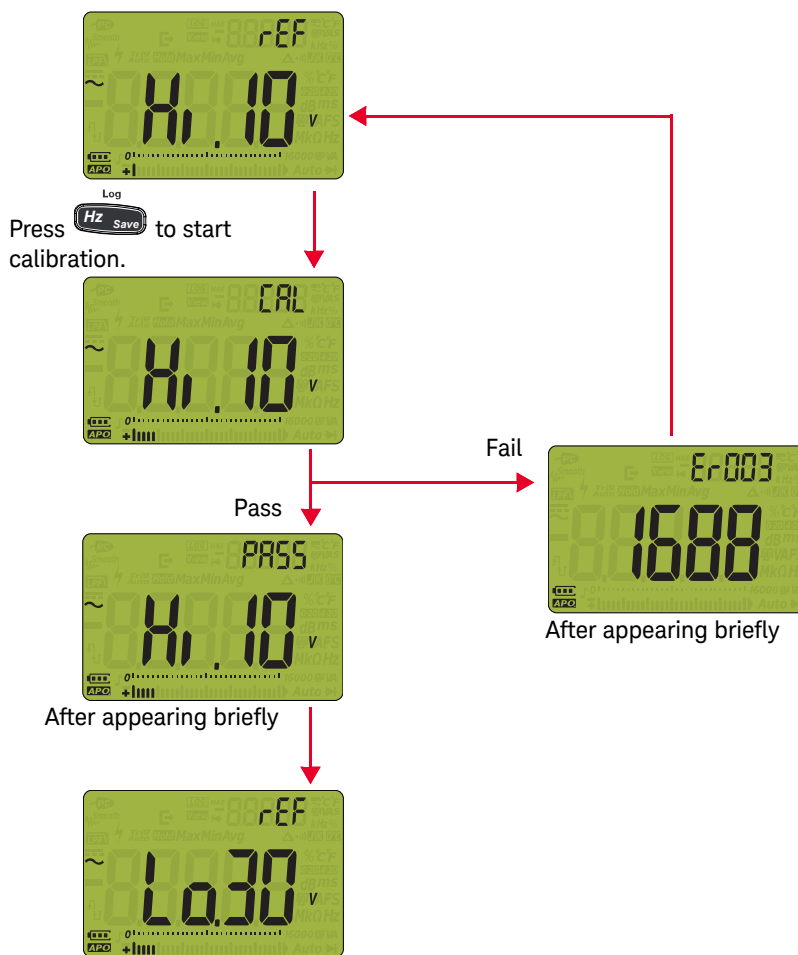

Figure 1-8 Multimeter display for Vsense (non-contact voltage) calibration
- See Figure 1-8 for the multimeter display.